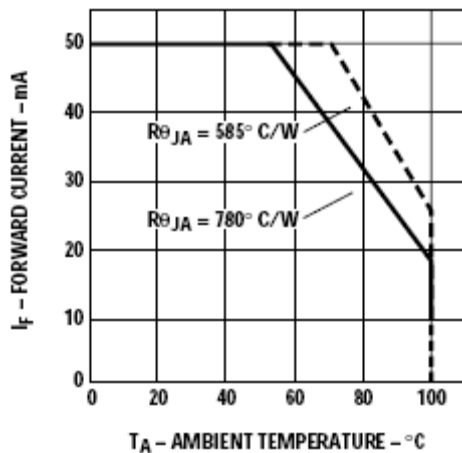

Figure 4: Maximum forward current vs. ambient temperature.
- Derate linearly as shown in Figure 4.